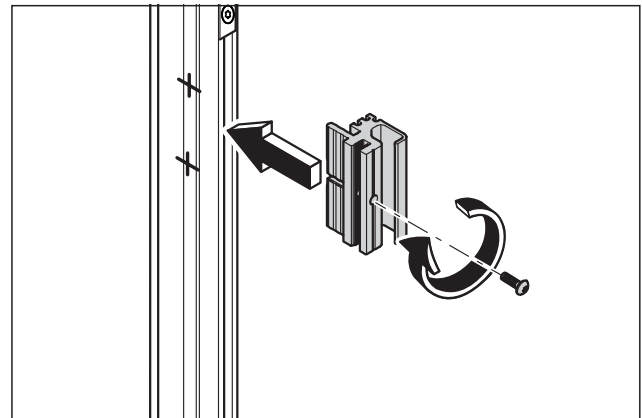

Fig. 31 Attach the frame clamping pieces on the hinge side.
- Align the base profile for the door frame (Fig. 31).